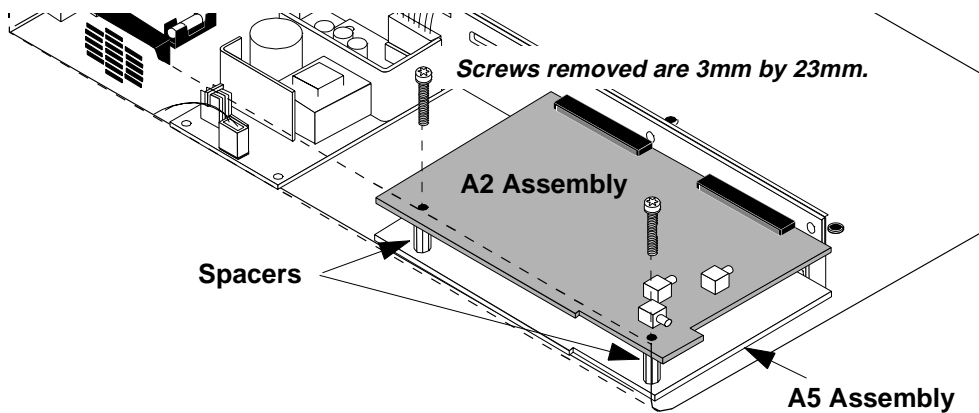

Figure 29 Removing A2 Assembly Screws
4. Remove the 2 screws securing the A2 (and A5) assembly to the deck, see figure 29. There are 2 spacers attached under the A2 assembly.